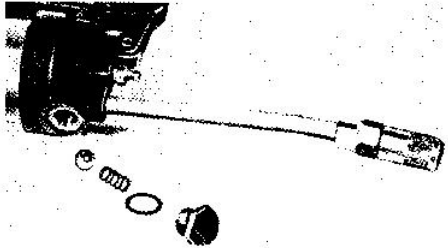

FIG. 16 - Ball check assembly removed.
- b. Remove gasket, spring and ball (Fig. 16).